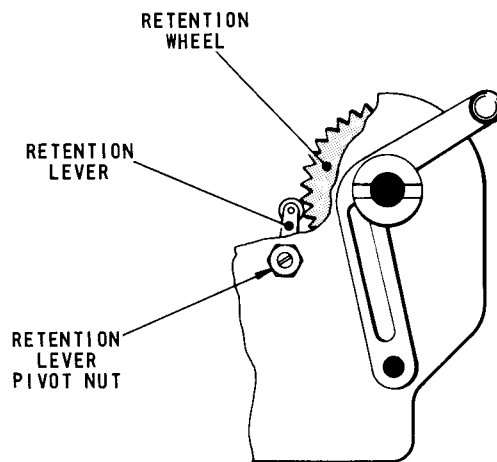

Fig. 4.38 FRICTION FEED PLATEN—LEFT-HAND END
- 43.2 To adjust, slacken the nut securing the retention lever, Fig.4.38, and turn the eccentric pivot by means of its screwdriver slot until dimension 'au' is satisfied. Tighten the nut.